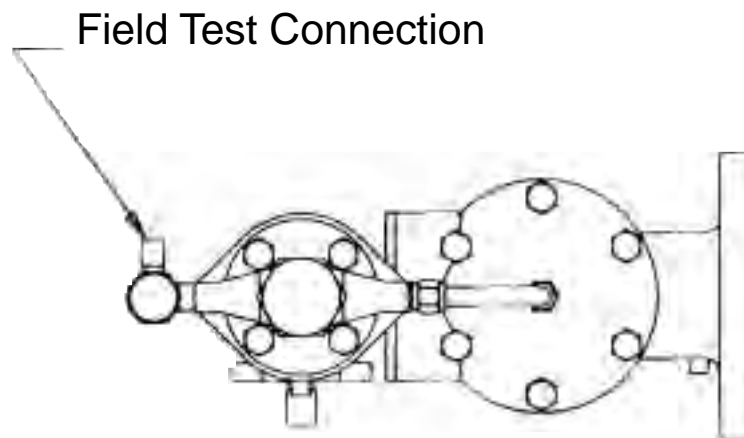

FIGURE 27
Field testing may be used to verify the valve opening point on repaired valves, or to periodically check the function of valves in service. A test set up similar to that shown in Figure 27 should be used.
2. Close the vent valve and isolation valve in Figure 27.